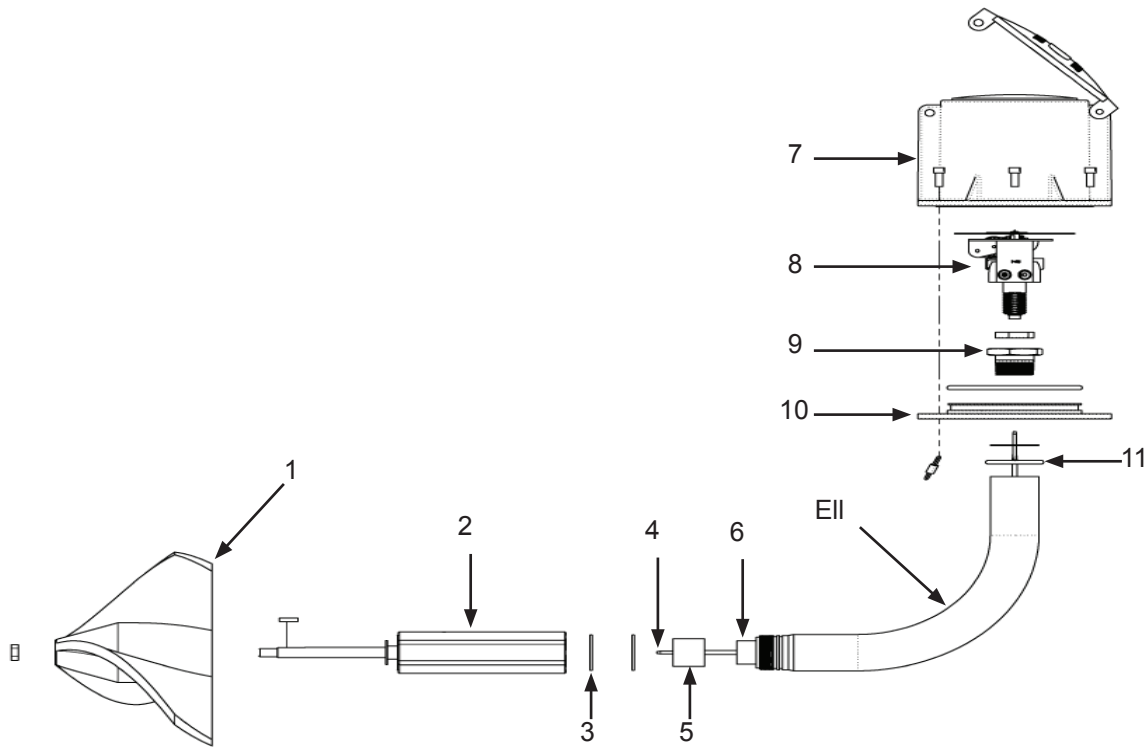

Figure 7 McPropeller Parts
Step 1. Remove the complete meter from the pipe, or the meter head assembly from the pipe if so equipped. Remove the propeller (1), the bearing assembly (2), the bearing O-rings (3), the drive cable (4), liner stop (5) and liner (6) from the ell. See Figure #. Check the inside of the ell to be sure it is clean and dry. Clean the bearing O-ring grooves and threads on the end of the ell. See Figure 7.
Step 2. Remove the canopy (7), register (8), hex bushing (9), base plate (10) and gaskets (11) from the top end of the ell. See Figure 7.